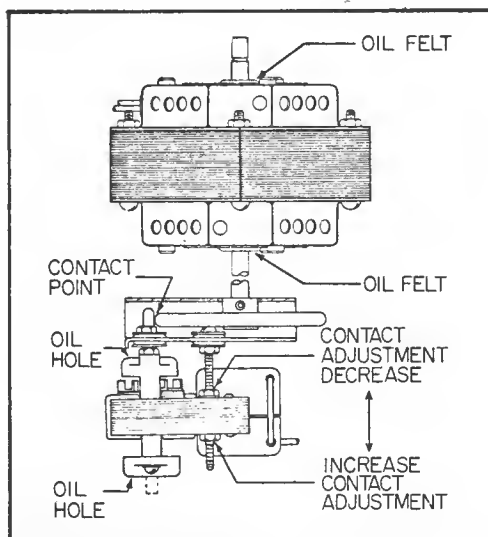

Figure 4-4. Leslie Motor Lubrication and Adjustments
- b. Loosen the contact adjustment nuts on the small motor until small motor shaft no longer touches the rim drive pulley. (See Figure 4-4.)
driver against the felt pads surrounding the motor bearings (two in each motor, Figure 4-4). If oil is transferred to the screwdriver, the bearings should *not* be oiled.
- c. Apply enough sewing or other light machine oil to soak the bearings felts of each motor. (See "Oil Hole" and "Oil Felt" points on Fig. 4-4.) Don't add more oil than these felts will readily absorb. This completes cleaning and lubrication of the two-speed motor assembly.